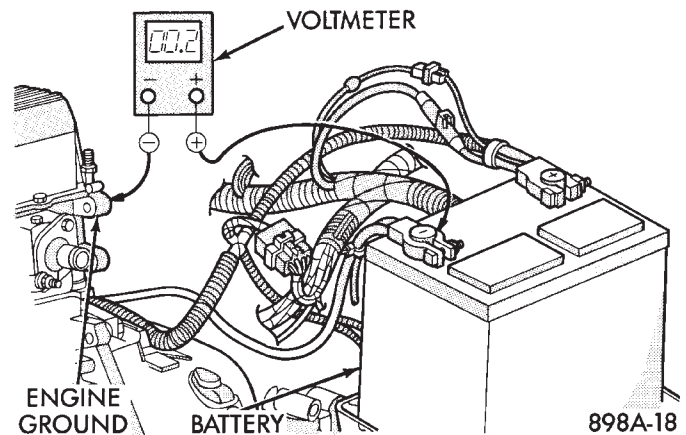

Fig. 5 Test Ground Circuit Resistance - Typical
(4) Connect the voltmeter to measure between the battery negative terminal post and a good clean ground on the engine block (Fig. 5). Rotate and hold the ignition switch in the Start position. Observe the voltmeter. If the reading is above 0.2 volt, clean and